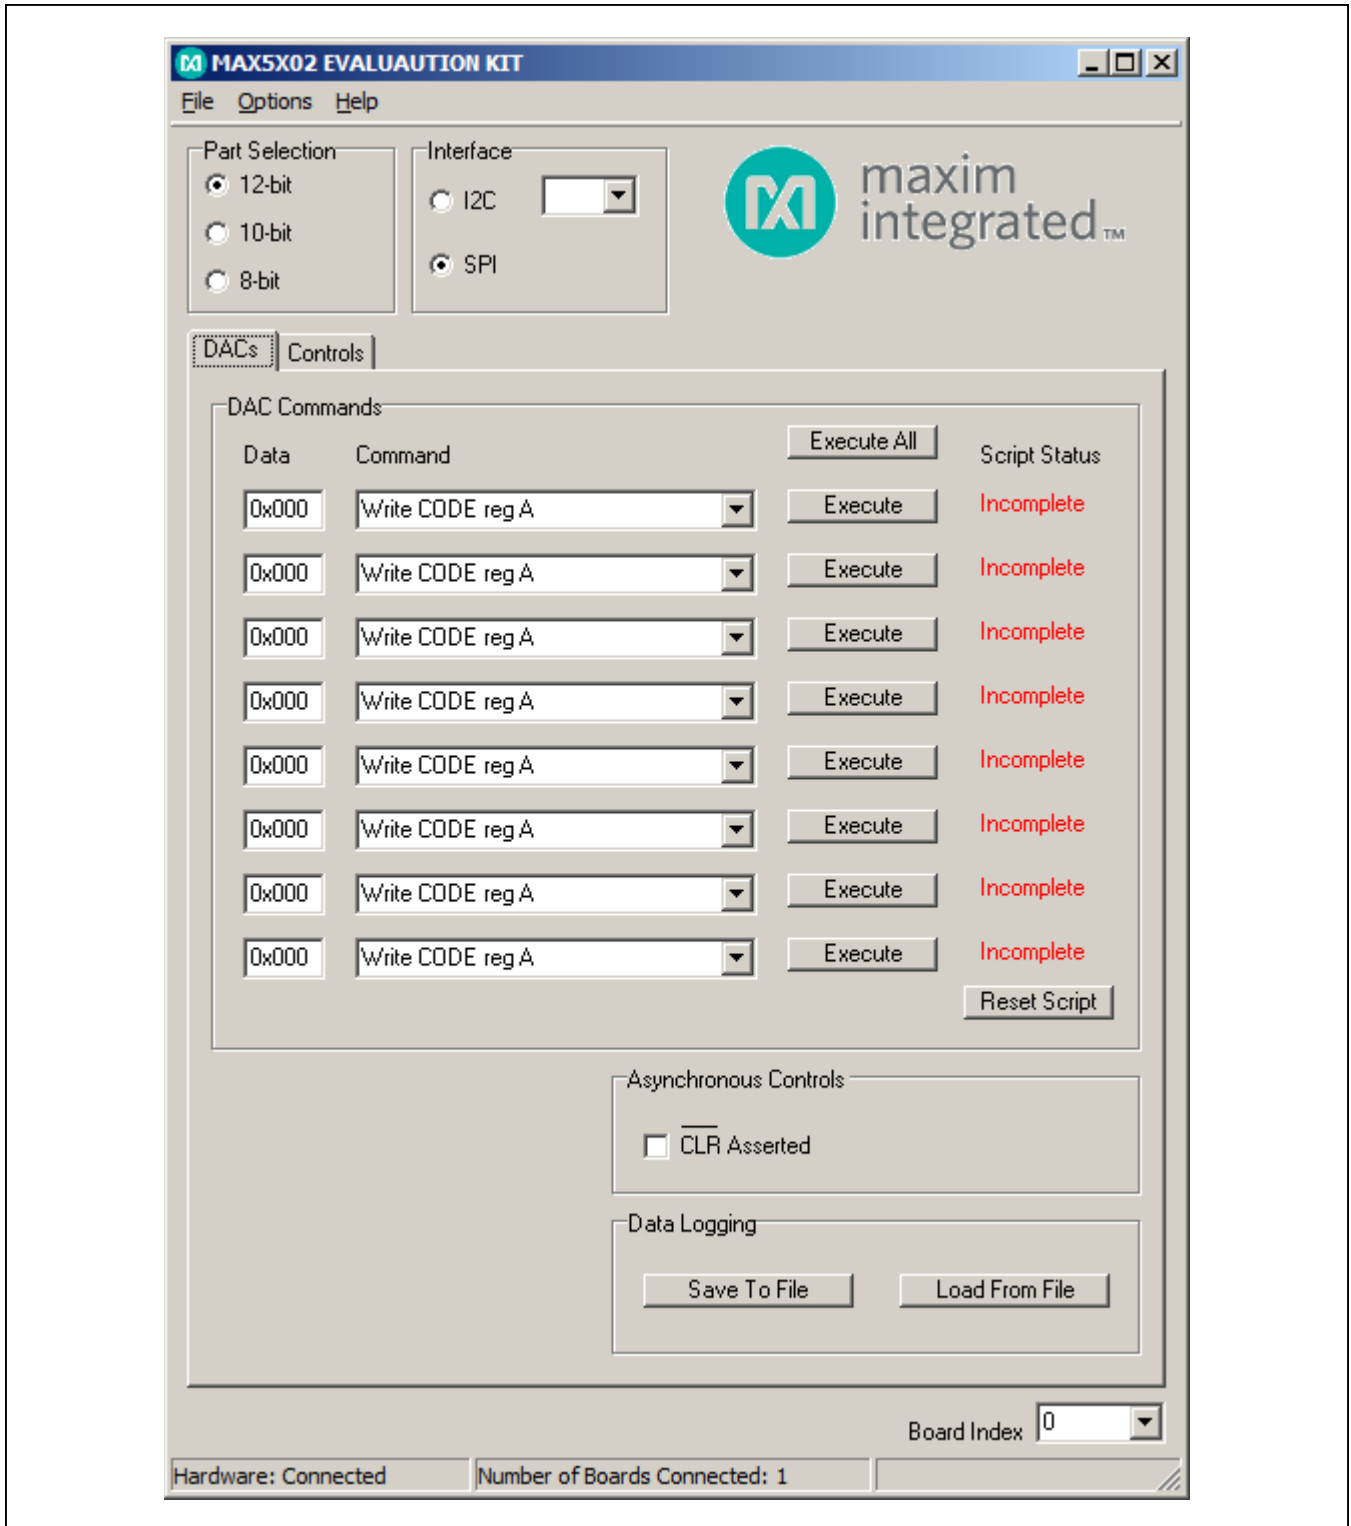

Figure 1. MAX5X02 EV Kit Software Main Window (SPI)
- 7) Start the EV kit software by opening its icon in the **Start | Programs** menu. The EV kit software main window appears, as shown in Figure 1.